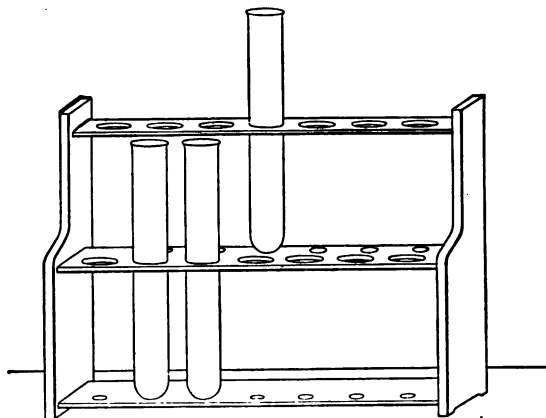

FIG. 3.
M. In most cases. But to get crystals you needn't always let a solution evaporate; there are many other ways, one of which I will show you immediately. Here I have a glass with the copper sulphate we used lately. If I put some with water and shake it, it will dissolve, and the water will become blue (Fig. 3).